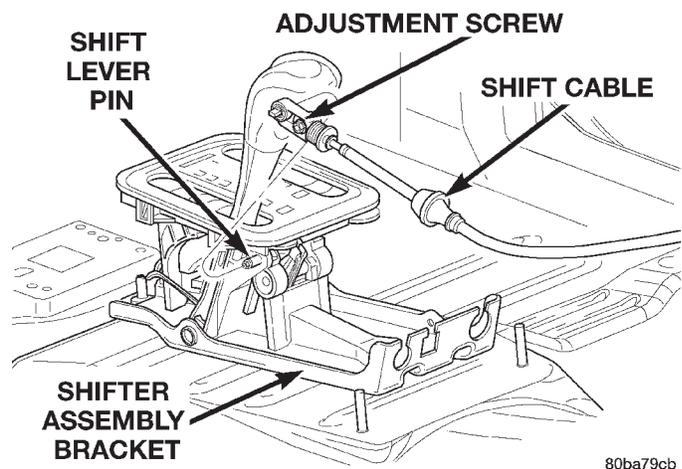

Fig. 43 Transmission Shift Cable at Shifter
(6) Install the brake transmission interlock cable into the shifter assembly bracket and connect on the BTSI lever.
(7) Install the shift cable on the shifter bracket and snap in place (Fig. 43).
(9) Snap the shift cable on the shift lever pin (Fig. 43).
(10) Torque the adjustment screw to 7 N·m (65 in. lbs.).
(11) Verify correct shifter operation.
(12) Install the shift lever bezel and any console parts removed for access to the shift lever assembly and shift cables.